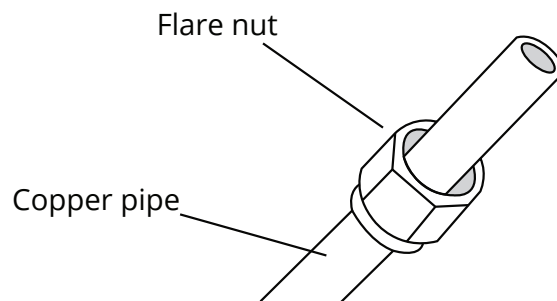

Fig. 5.3
3. Place flare nuts on both ends of pipe. Make sure they are facing in the right direction, because you cannot put them on or change their direction after flaring. See **Fig. 5.3**.